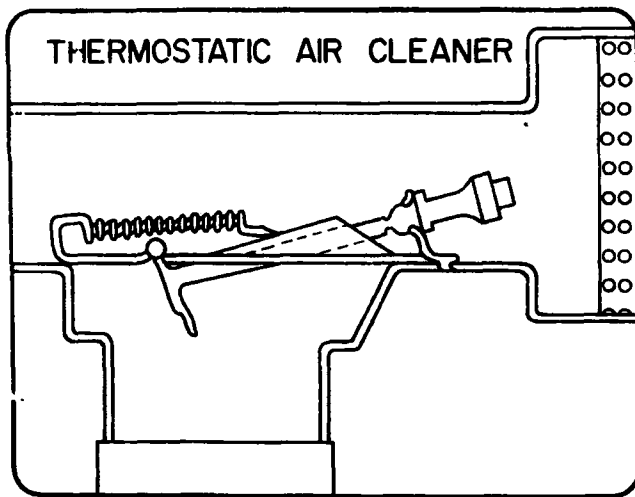

Figure 5-23
1. Figure 5-23 shows a thermostatic air cleaner. List the basic steps of the operational check.